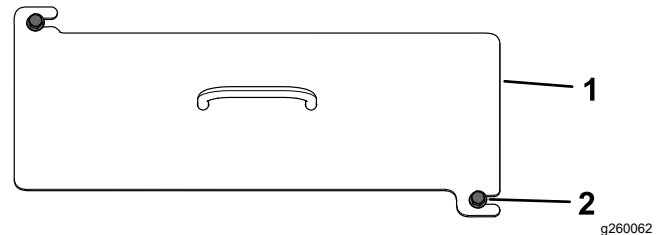

Figure 38
2. Loosen the 2 bolts securing the front cover to the machine (Figure 38).